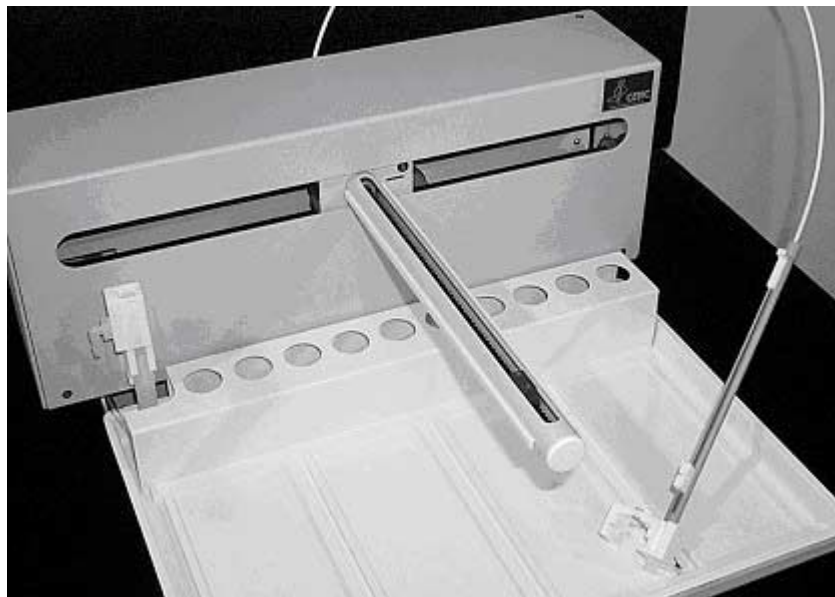

Figure 1-3. Z-drive removed from arm assembly.
2. Next, remove the whole Z-drive assembly from the arm by pulling the whole Z-drive assembly forward and off the Auto Sampler arm. See Figure 1-3.